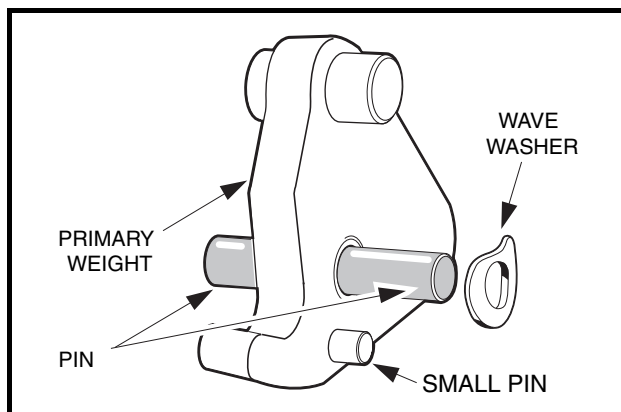

Figure 17-10 Install Pin and Washer
- 5.3. Before removing, note the orientations of the wave washer and of the primary and secondary weights to one another (Figures 17-10 and 17-11, Page 17-8). Remove the plastic washers, weights and wave washer from the pin. Retain all parts.
7. Install the primary weights on the mounting pins (**Figure 17-10, Page 17-8**).
8. Install a wave washer on each mounting pin. Make sure that the concave side of the washer faces the side of the primary weight with the small guide pin protruding from it (**Figure 17-10, Page 17-8**).